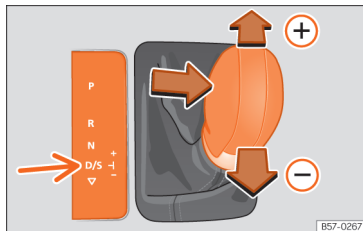

Fig. 102 Lever in the Tiptronic position
- Move the lever forwards (+) or backwards (-) to change up or down a gear »» Fig. 102.